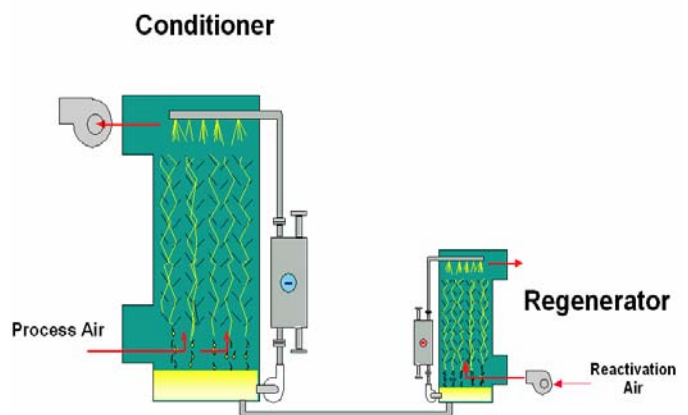

Figure 2-7 Liquid Desiccant
- 2) **Liquid Desiccant** (Figure 2-7):